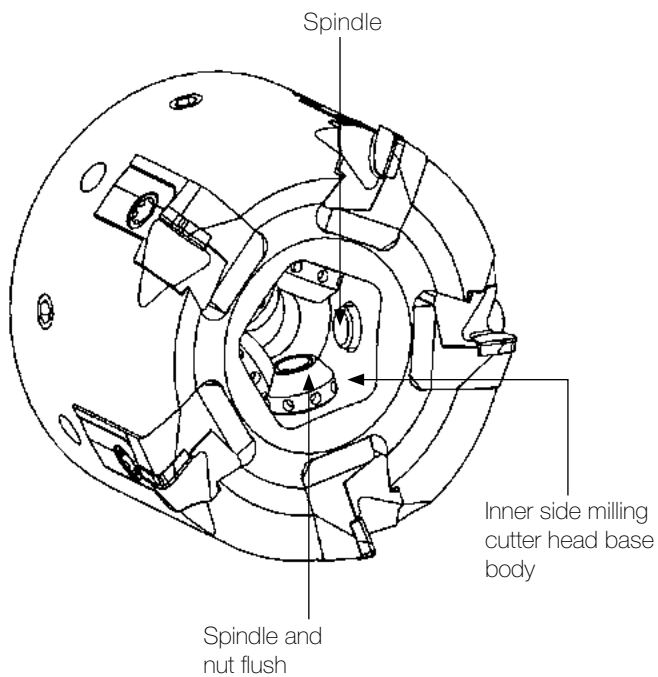

Fig. 5
- From the outer side, screw the spindle (lightly grease both threads with Molykote® assembly paste G-N Plus) anti-clockwise into the clamping wedge (fig. 4) until the spindle projects into the inside of the milling head base body by approx. 2 threads (fig. 5). Position the nut on this thread and screw the nut on by turning the spindle clockwise. Now screw the spindle in further anti-clockwise, whilst constantly re-positioning the nut clockwise (screwing onto the spindle) until the spindle towards the centre is level with the nut (the re-positioning of the nut can be simplified via the bores on the external diameter of the nut with the help of a small pen key or similar).